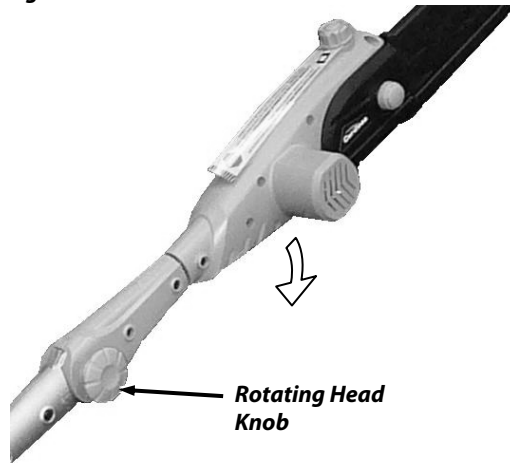

Figure 10
1. Turn the Knob on Rotating Head counter clockwise to loosen Power Head (Figure 10).